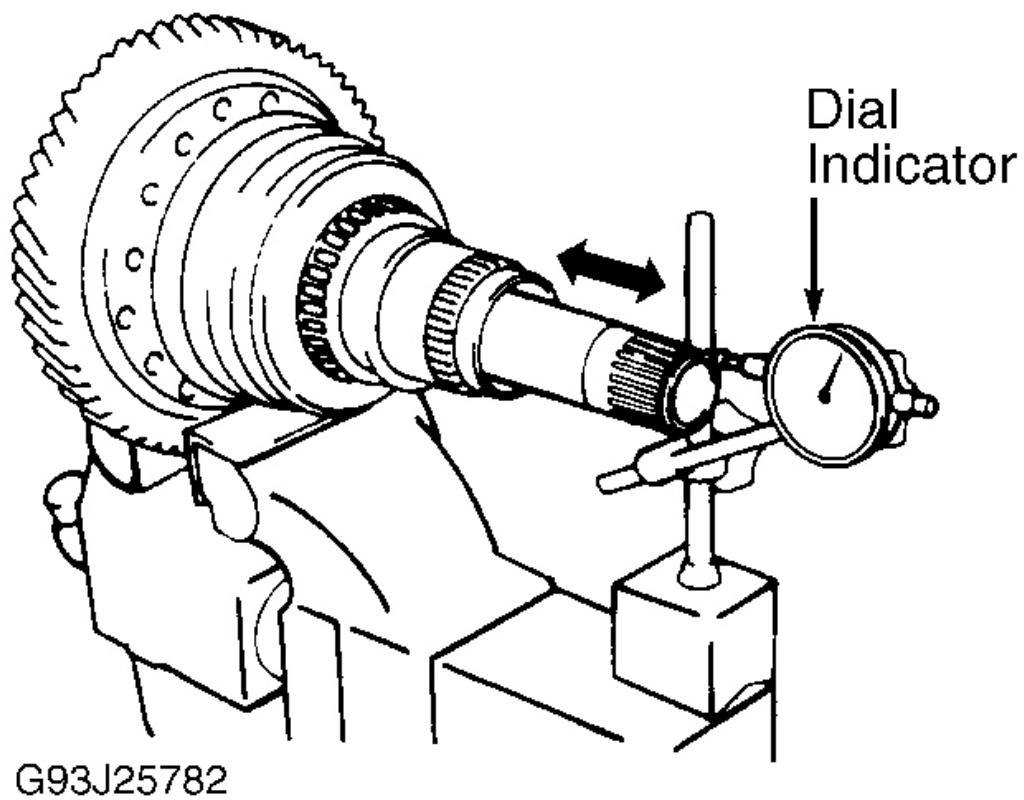

Fig. 43: Checking Differential End Play
1. Use a dial indicator to measure differential end play. End play should be .0071-.0323" (.180-.820 mm). See **Fig. 43** . Remove 2 oil seal rings from ring gear mounting right case. Remove snap ring and speedometer drive gear.